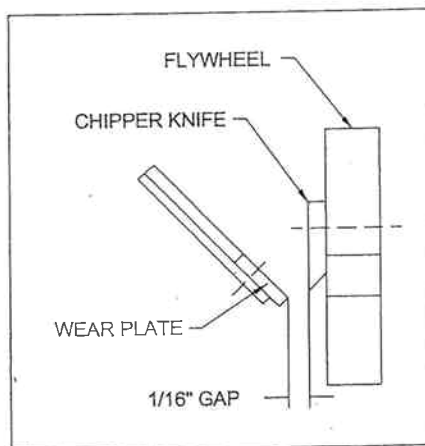

Figure 1
4. Care must be exercised when sharpening the knife to maintain the correct bevel and a straight edge. Refer to sharpening directions. When you install a knife, the clearance between the knife and wear plate must be checked and set. This clearance or gap should be set to 1/16" (see figure 1).